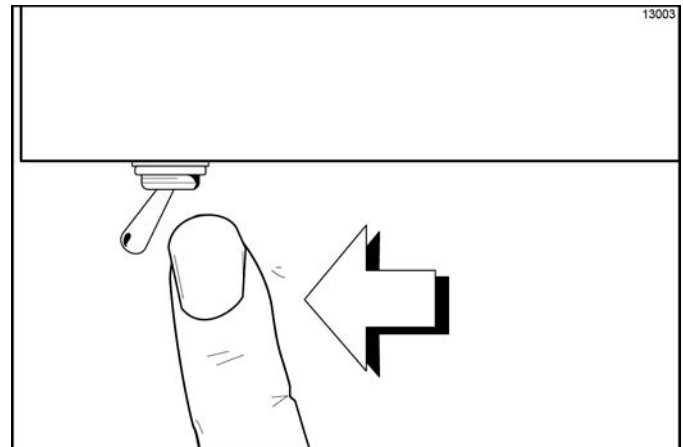

Figure 6-118
- Make sure the power switch is in the OFF position. (See Figure 6-118.)